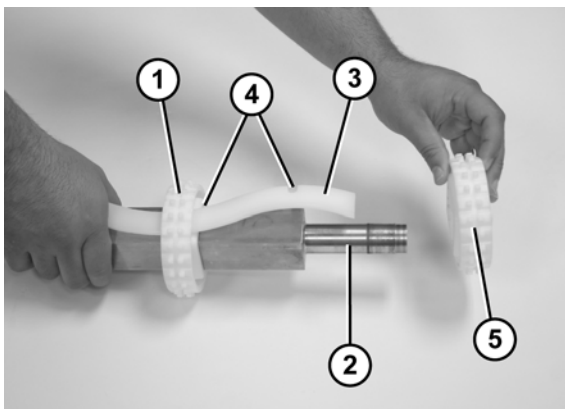

Figure 75
1. Slide the first sprocket (Figure 75, item 1) onto the drive spindle (Figure 75, item 2).
2. Insert the sprocket alignment bar (Figure 75, item 3) into the first sprocket and align the sprocket with the notch (Figure 75, item 4) in the sprocket alignment bar.
3. Slide the remaining sprockets (Figure 75, item 5) onto drive spindle and align each sprocket with the notches (Figure 75, item 4) in the sprocket alignment bar.